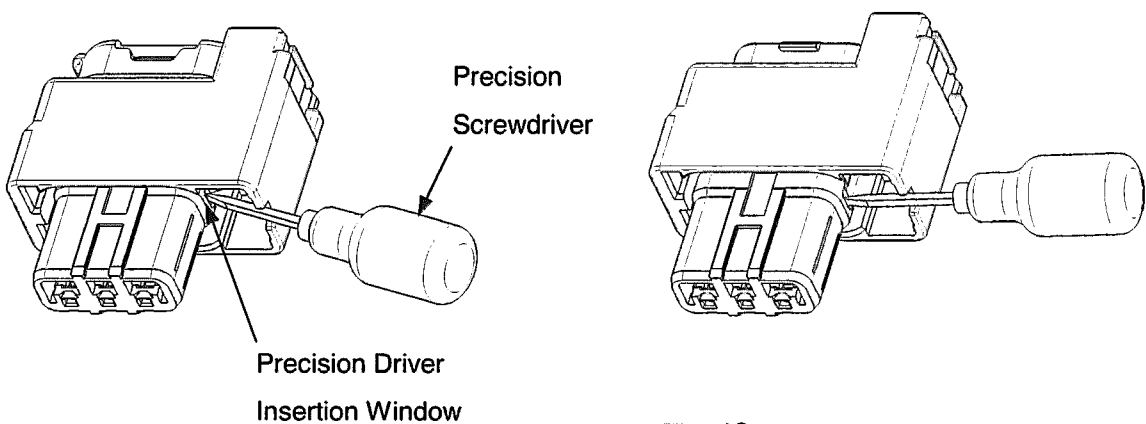

Fig. 12
(1) Confirm that the retainer is drawn out perfectly from female housing. If it is "Primary Lock Position" or "Secondary Lock Position", draw out the retainer perfectly. See Fig.12